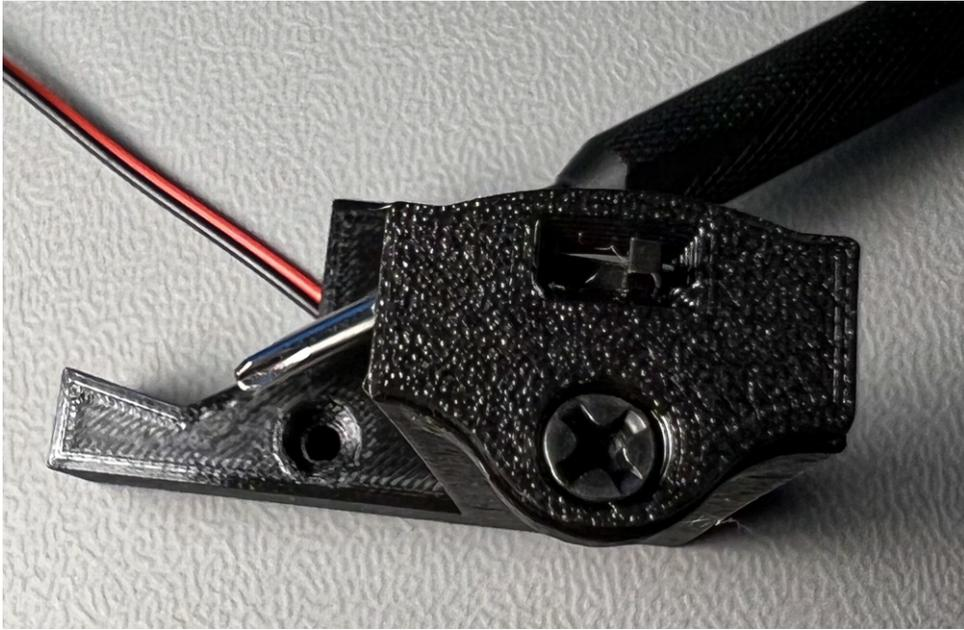

Figure 15: How to slide in the LED light into the 3D printed holder.
2. Proceed to install the end cap using one of the self-threading screws. Ensure that the ON/OFF switch remains easily accessible through the slot, similar to Figure 15.